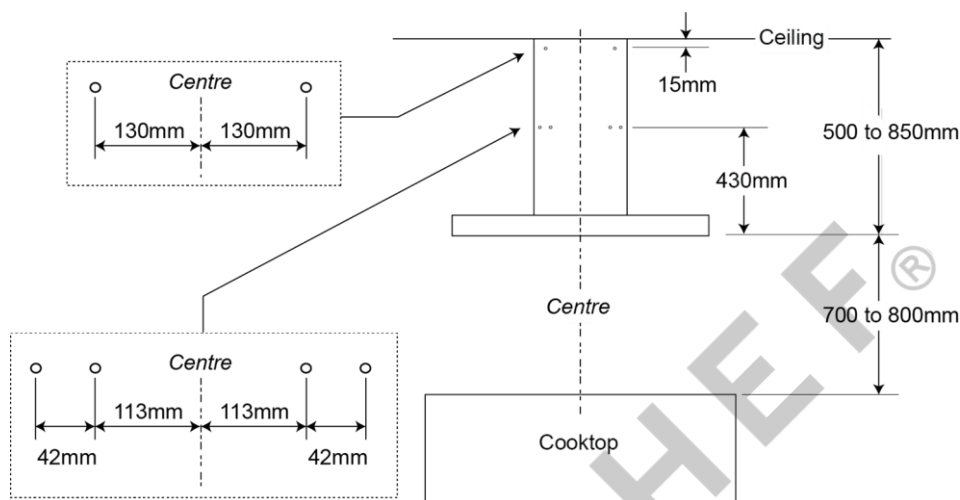

Figure 1
1. Refer to *Figure 1*. Using a pencil or other erasable marker, lightly mark out the vertical centre line of where the range hood is to be installed – this is generally central to the cooktop. Then, mark a horizontal line that is to be where the bottom of the range hood will be. Ensure that the line is level.